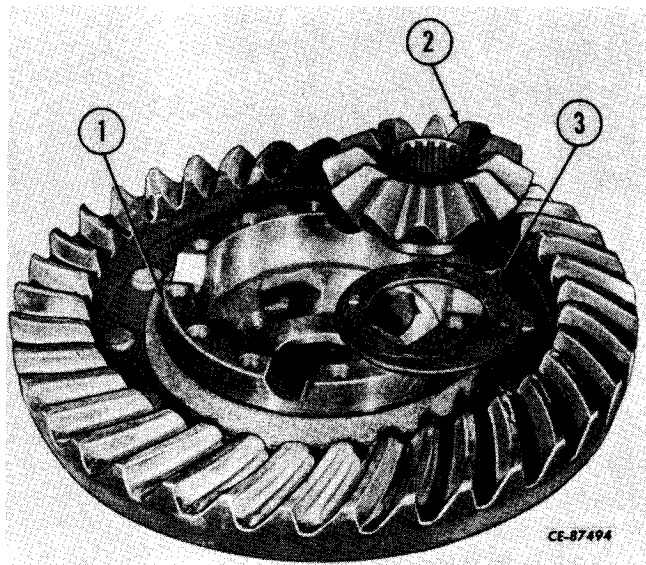

Figure 6-55
Position thrust washer (3, Fig. 6-55) and side gear (2) in ring gear and case half assembly (1) after lubricating parts with new axle lubricant (refer to "LUBRICANTS AND CAPACITIES" under "SERVICE INFORMATION").